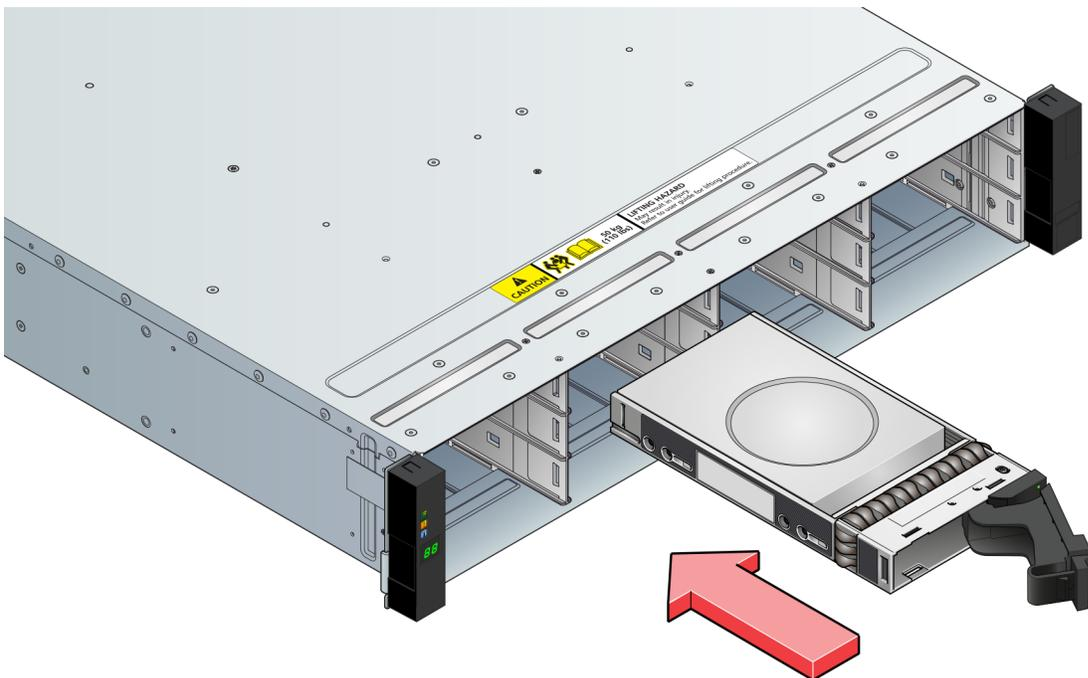

Figure 80. Installing a Drive Carrier Module (2)
2. Put the drive carrier module into the enclosure (see Figure 80 “Installing a Drive Carrier Module \(2\)” on page 80). Make sure that the drive carrier is in a position so that the drive points up and the handle opens from the left.